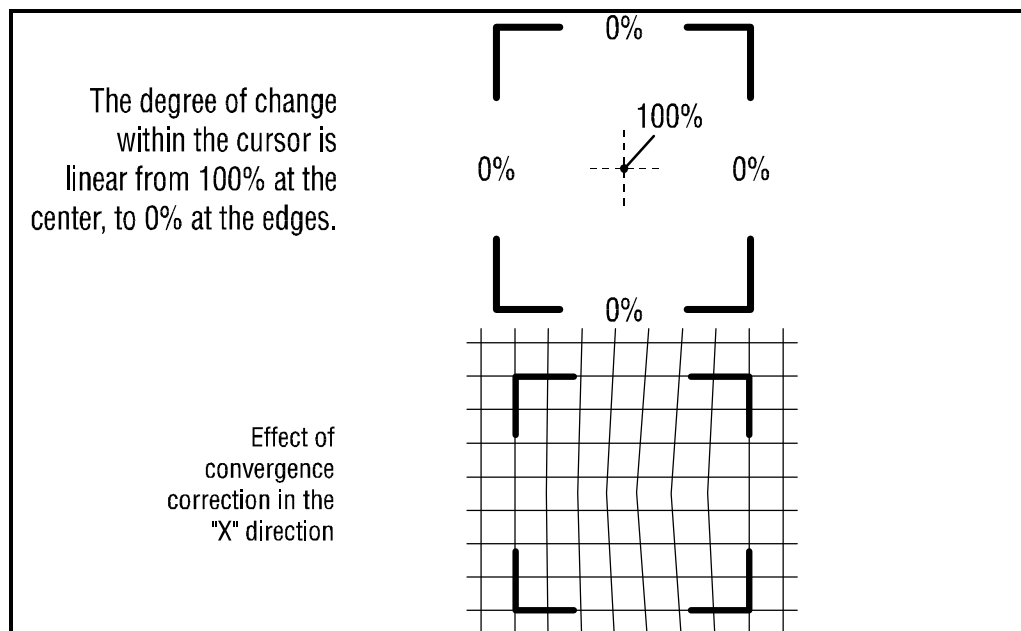

Figure 4-14. The degree of change within the cursor area is greatest in the center, zero on the edges and linear in between.
13. Use the arrow keys to move the convergence of Red within the cursor area so that it perfectly overlaps Green at the center of the cursor. Concentrate on the cursor center where the greatest effect is, not the edges (see *Figure 4-14*). If the convergence is way off, a number value may be entered to save time (see *Section 4.9, Reference Information*). If convergence was started at a corner or an edge and the same amount of correction performed applies to an area directly above or below, the "EXTEND" mode may apply (see *USING THE EXTEND MODE below*).